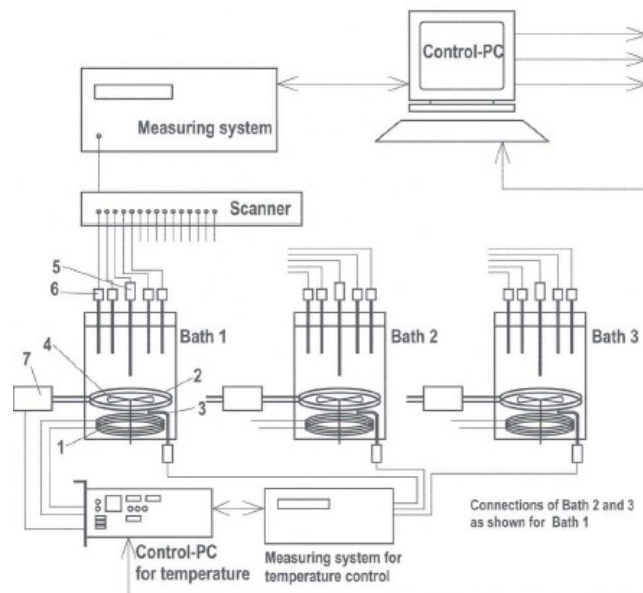

Fig. 2: TERMOKAL - Test plant for temperature-sensors
- **Termokal** in fig. 2. for testing and calibration of platinum temperature sensors of heat meters.